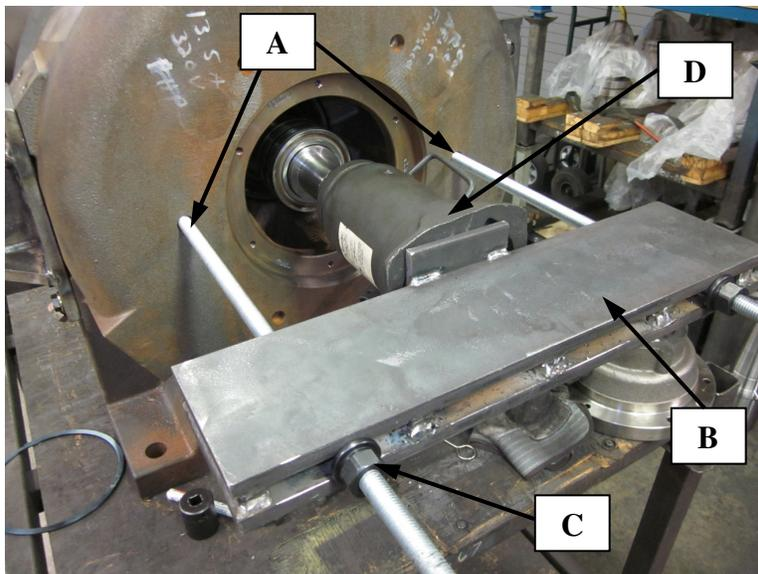

Figure 16
- With the shaft assembly in place, assemble the shaft installation equipment on the rear of the machine. First, place the 5/8" threaded rod, "A", into the holes supplied on the back of the machine. Next, place the rear jack support plate, "B", over the threaded rod and secure with heavy duty nuts, "C." Then, hold the hydraulic jack, "D", centered on the shaft assembly and secure the jack support plate against the jack with the heavy duty nuts. Refer to Figure 16.